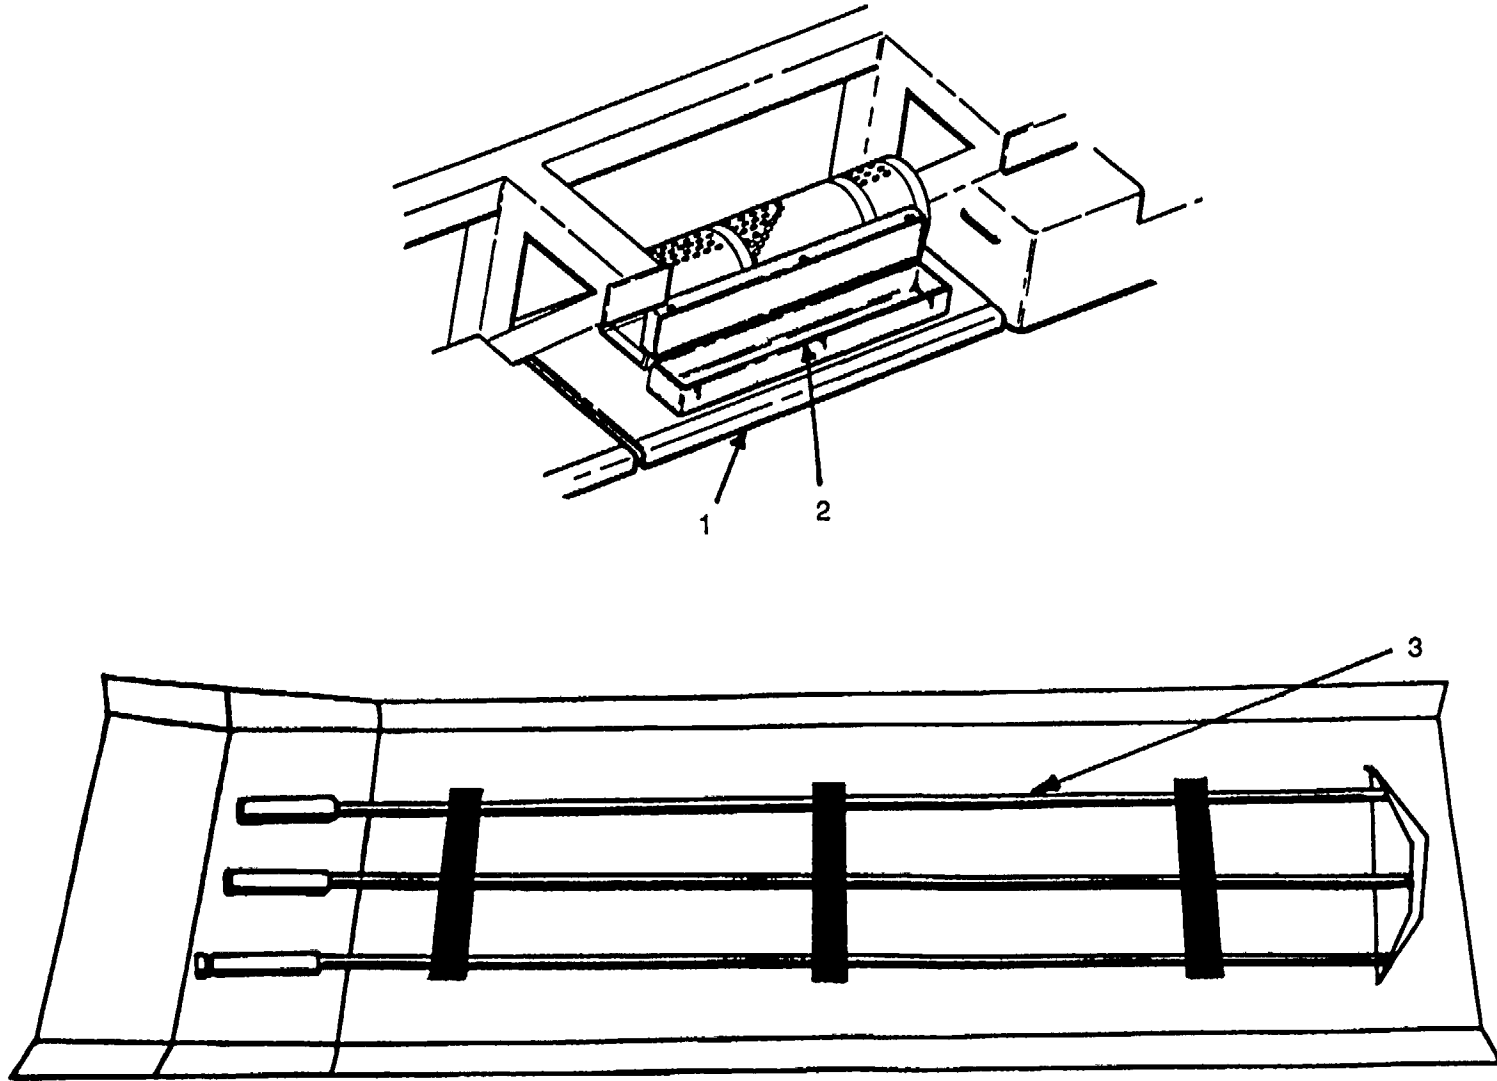
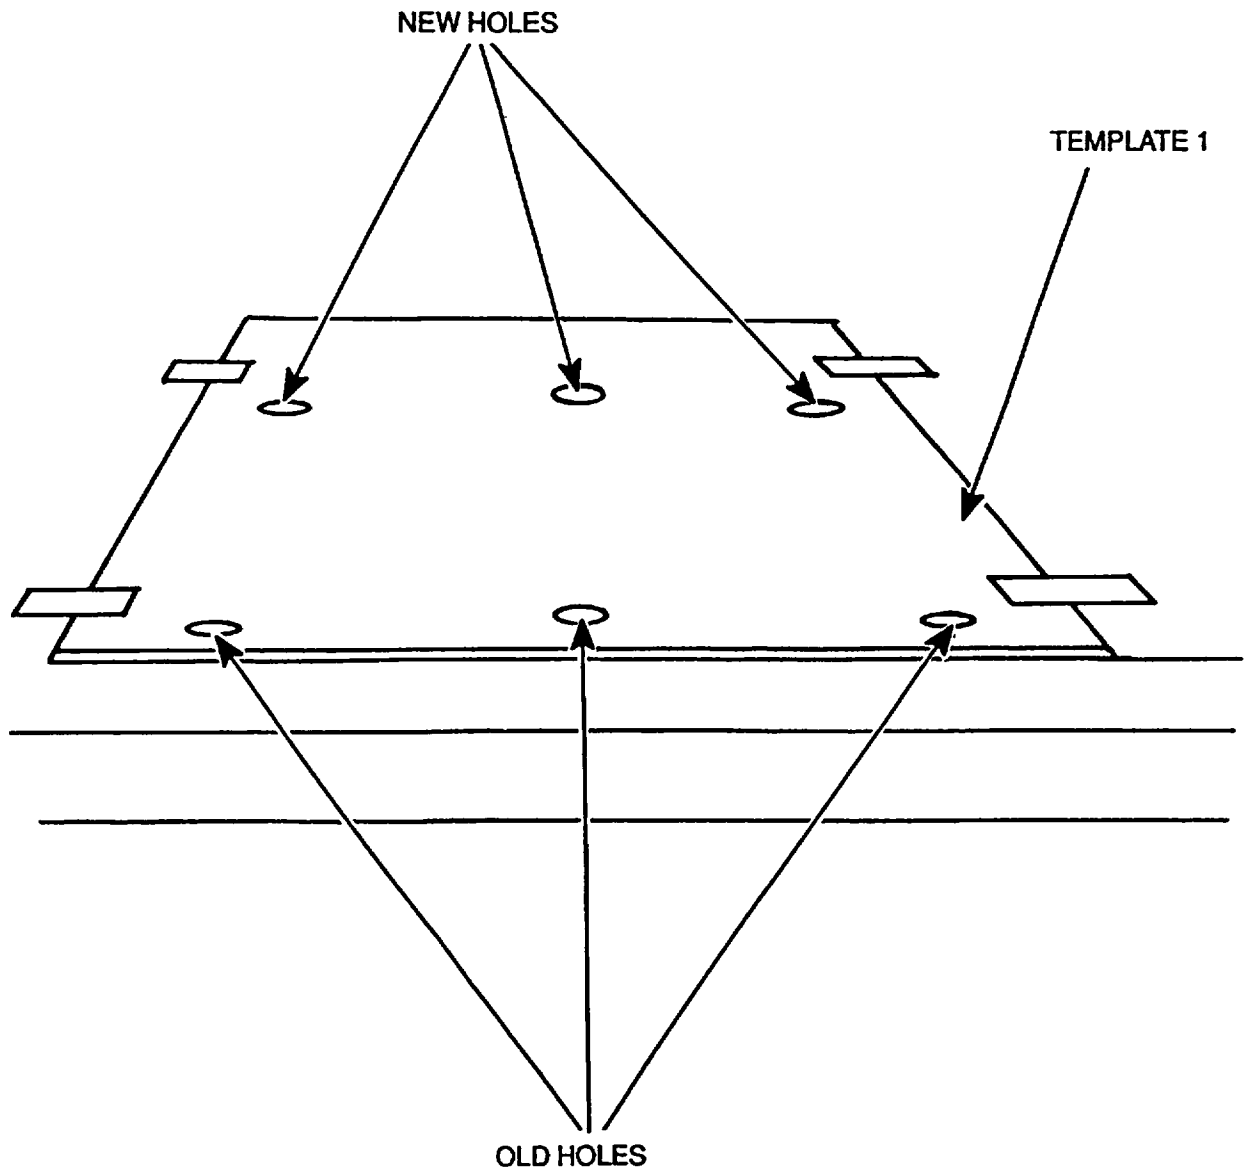
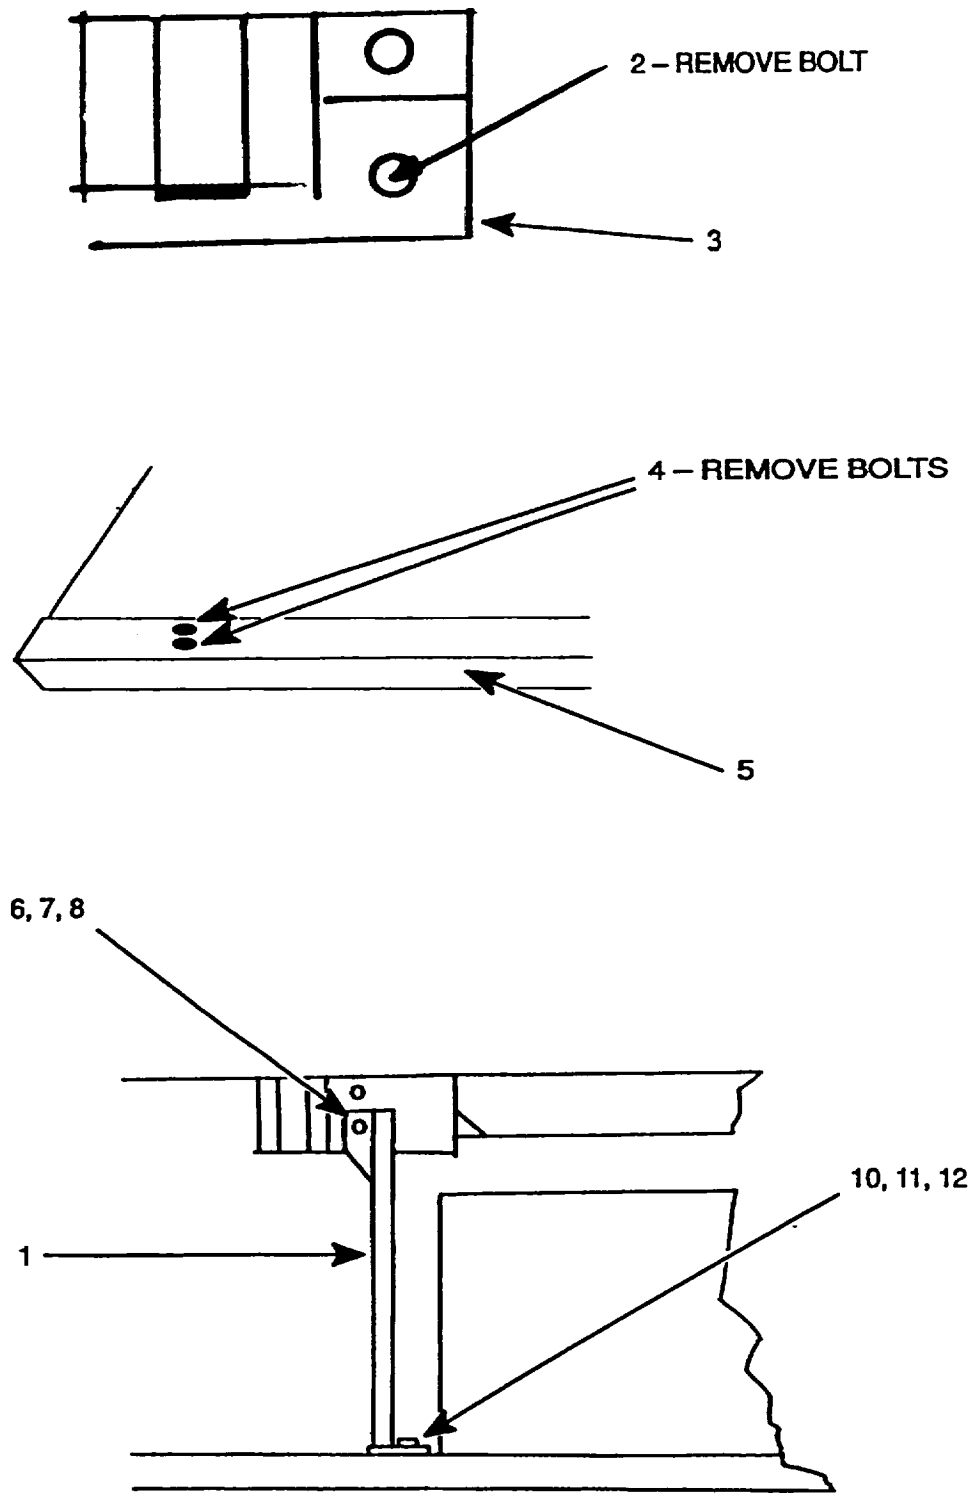
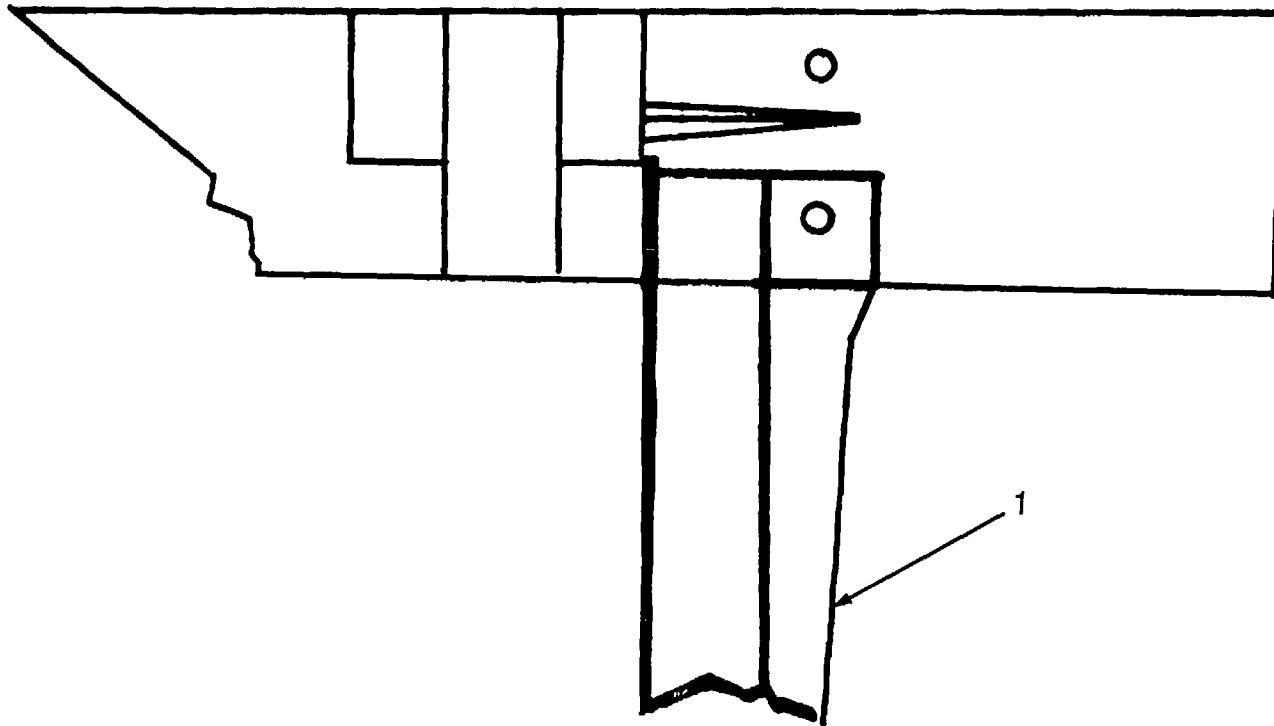

Figure 1. Ground Rod Removal
Figure 2. Preparation of Ground Rod Box Support for Guy Wire Accessory Kit Storage Box
Figure 3. Installation of Left Ground Rod Support Bracket
Figure 4. Installation of Right Ground Rod Support Bracket
- a. Ground Rod Storage Box Removal (fig. 1).
- (1) Find Ground Rod Storage Box Support (1) at forward curbside of vehicle.
- (2) Open Ground Box (2), remove and store ground rods in Ground Rod Roll (3).
- (3) Disconnect and remove empty Ground Rod Box (2) by removing six sets of bolts, twelve washers, and six locking nuts.
- b. Preparation of Ground Rod Box Support for Guy Wire Accessory Kit Storage Box (fig. 2).
- (1) Locate and tape Template (1) on to Ground Rod Box Support (2), using the three existing holes closest to curb as guides.
- (2) Drill three 0.500 diameter holes, using template for new hole locations.
- c. Installation of Left Ground Rod Box Support Bracket (fig. 3).
- (1) Install Left Support Bracket (1) by first removing one bolt (2) from Brush Guard Hinge (3) and two bolts (4) from Ground Box Support (5).
- (2) Secure top of Left Support Bracket (1) to Brush Guard Hinge (3) by installing one 5/16-18 x 1 3/4 Hex head cap screw (6), one flat washer (7), and one lock washer (8).
- (3) Secure bottom of Left Support Bracket (1) to Ground Rod Support (5) by installing two 5/16-18 x 13/4 bolts (10), four washers (11), and two lock nuts (12).
- d. Installation of Right Ground Rod Box Support Bracket (1, fig. 4) is the same as the Left Ground Rod Box Support Bracket.